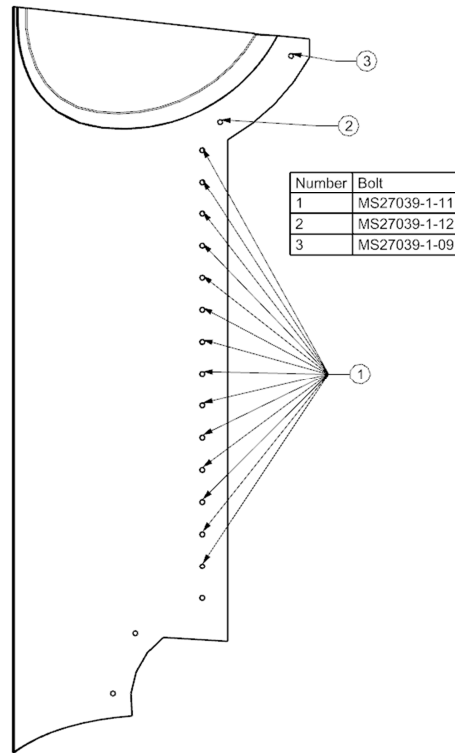

Figure 2-2: Fuselage Pylon Leading Edge Fastener Placement
5. Attach the fuselage pylon leading edge (UWB-ICE-04-401) to the fuselage pylons using MS27039-1-12, MS27039-1-11, and MS27039-1-9 fasteners as per Figure 2-2.